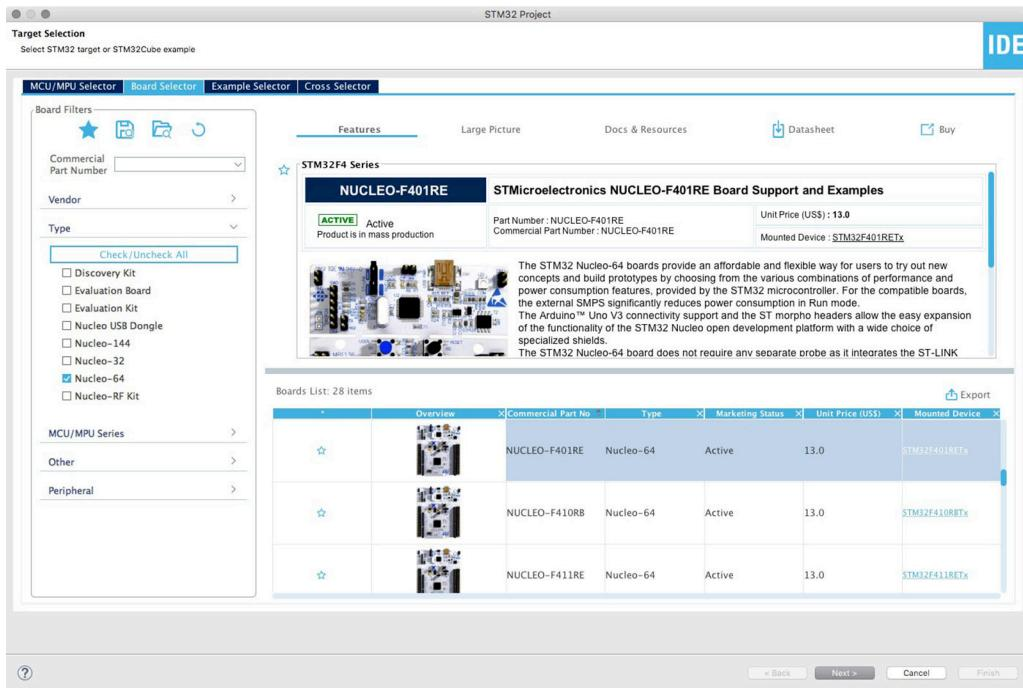

Figure 3.1: The Target Selection wizard - STEP 1
Go to **File->New->STM32 Project**. Depending on your current IDE configuration, the **Target Selection** wizard (shown in Figure 3.1) will appear in a while.
Now click on the **Board Selector** tab (highlighted in light blue in Figure 3.1), expand the menu **Type** and check the **Nucleo-64** family of boards. Dig inside the list of boards to find your specific Nucleo-64 board.
Once you select the board in the list, click on **Next** button. Specify a Project Name in the relative field (*hello-nucleo* in our case, but feel free to choose what it is best for you) and leave all other flags with the default configuration, as shown in **Figure 3.1**. Click on **Finish** to start the project generation.
- **Examples projects for development boards:** ST provides a lot of complete and working examples for its development boards. Every example is made to show how-to use a given feature of the board. Every Cube Firmware package integrates several examples, and you can browse the complete example list by clicking on the **Example Selector** tab in the Target Selection wizard (see **Figure 3.1**).